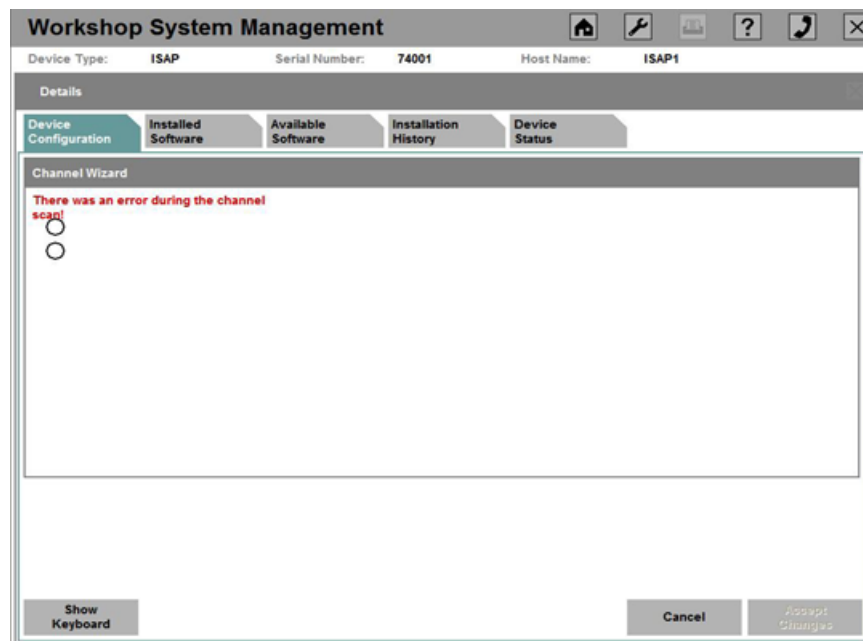

Fig. 78: Result and recommendation of the Channel Wizard
- The scan operation also determines the strength of the received signals of the neighboring WLAN radio networks. On the basis of these measurements, the ISAP determines a recommendation that can be adopted by the user. To do so, click the radio button of the recommendation and then click the "Apply" button (see Fig. 78).